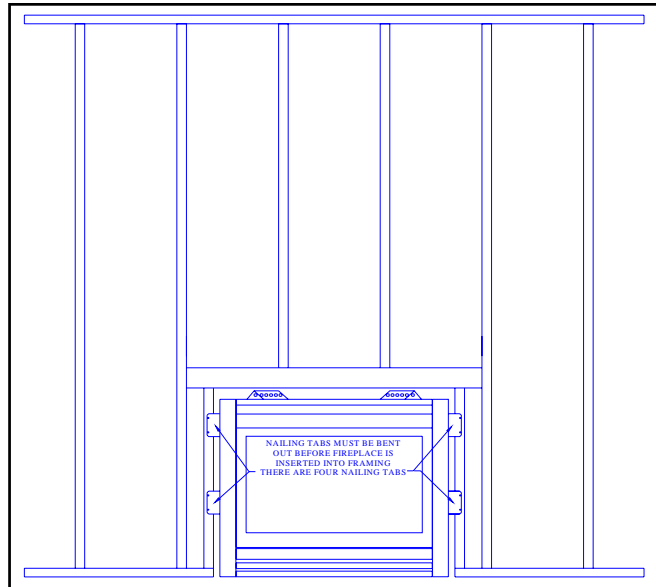

Fig. 7 – Securing The Fireplace
- 4) Center the fireplace in the framing and anchor the fireplace, using the nailing strips provided, to the framing. (see figure 7)